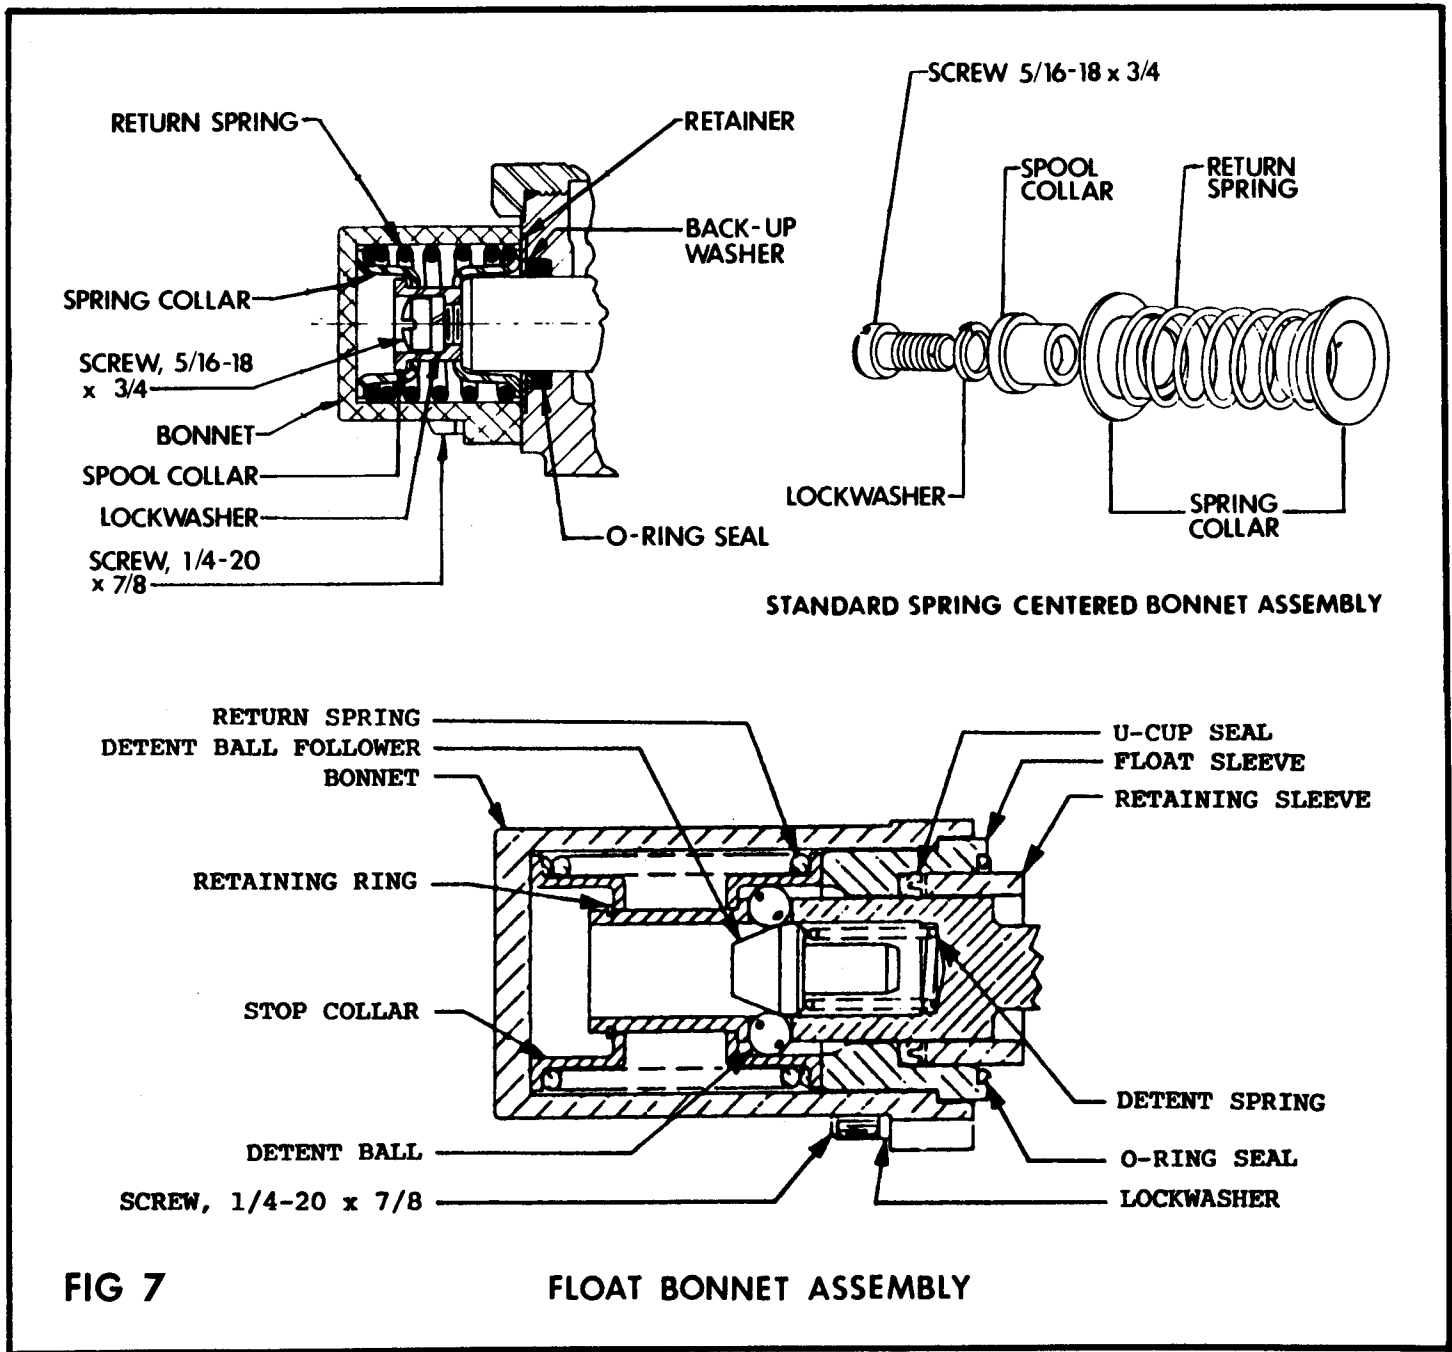

FIG 7
17. Paint on valve spool, sticking valve..... spool, or scored valve spool.	clean valve spool. Binding is usually caused from an over tightened plug, mounting bolt, fitting in valve body, or tie rod bolt. If a plug or fitting in valve body is leaking do not over tighten in an effort to stop leak. This will distort body casting and cause spools to bind. Instead, the plug or fitting should be removed from valve body and be reconnected, using a new O-ring. Do not apply excessive pressure on mounting bolts. The rods should be torqued to 20 ft-lb. Never force spool, if binding occurs, see item 31 at the end.
18. Oil leakage past spool seal into..... spool cap.	remove cap, if it contains oil, replace spool seal O-rings. Check O-ring retainer to see if it is flat. If it has been "belled" check for restriction from outlet to reservoir of valve which would cause excessive back pressure, see item 31 at the end and Fig 7.
19. Broken return springs.....	replace springs, see item 31 at the end and Fig 7.
3. At the BACK of the valve remove all bonnet assembly parts which are connected to the spool, keep parts in the order of disassembly. See Fig 7 for the parts involved in the make-up of the bonnet assembly.
Replace retaining sleeve on valve spool. Lightly oil new U-cup seal. Slide U-cup seal over valve spool being careful to orient seal as shown in Fig 7. Install new O-ring seal in bonnet counter-bore.